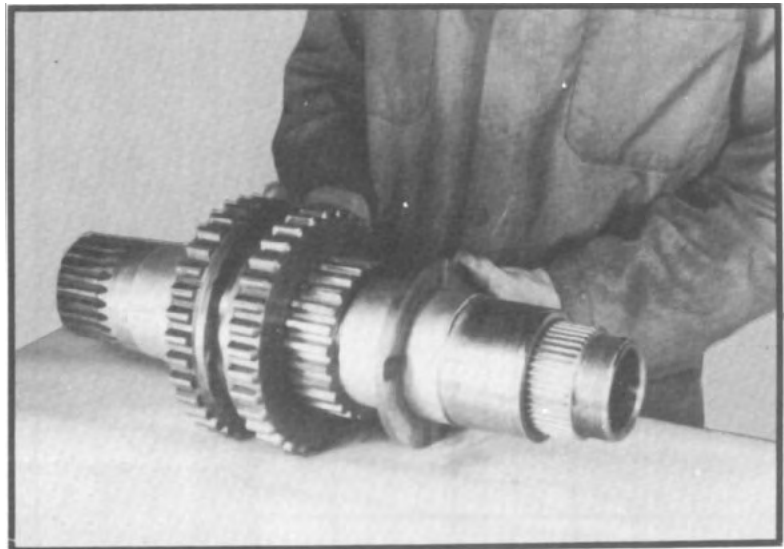

Fig. 111
- 2.2 Place the two identical thrust washers over the shaft and against the outside faces of the clutch gear splines. Oil groove side of washer to face outwards and toward the drive gear. (See fig. 111.)